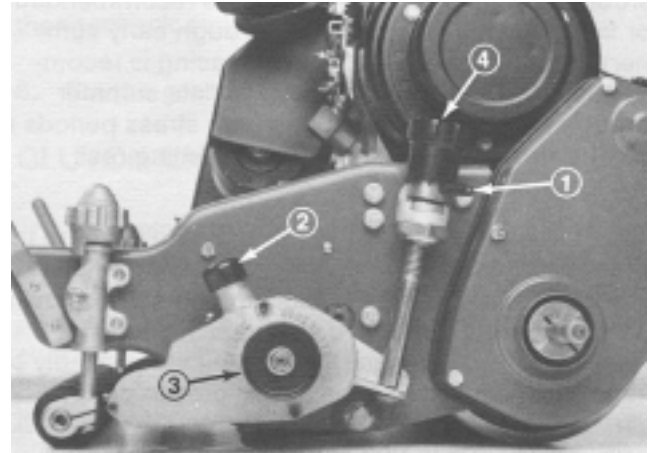

Figure 14
21. Reinstall drive belt cover to sideplate with (4) capscrews previously removed.
22. Check the assembly. Rotate both quick up levers to raise the grooming reel into the transport position (Fig. 14). Hold the clutch snubber down and rotate the clutch knob clockwise to disengage the clutch (Fig. 14). Correct any problems and recheck assembly.
23. Using a hand pump grease gun, lubricate the (2) grooming reel shaft bearings (one on each end). Pump only 2–3 pumps maximum to avoid permanently damaging the grease seals.